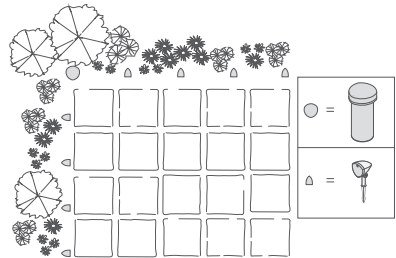

Figure 1
- Combined with Definitive Technology LS-400 satellite speakers (see Figure 1)